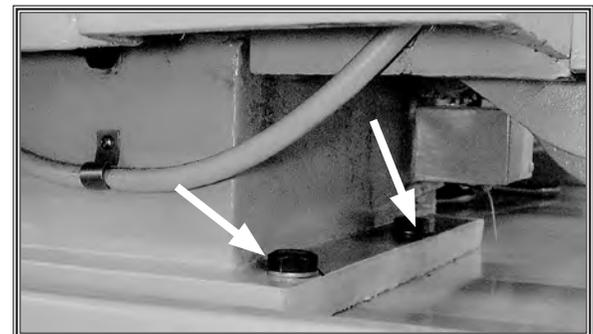

Figure 10. Lathe mounting hex bolts.
6. Position the lathe so that the six M12-1.75 x 40 hex bolts and flat washers can be inserted through the chip pan and partially threaded, but not fully tightened, into the mounting holes of the cabinets (see **Figure 10**).